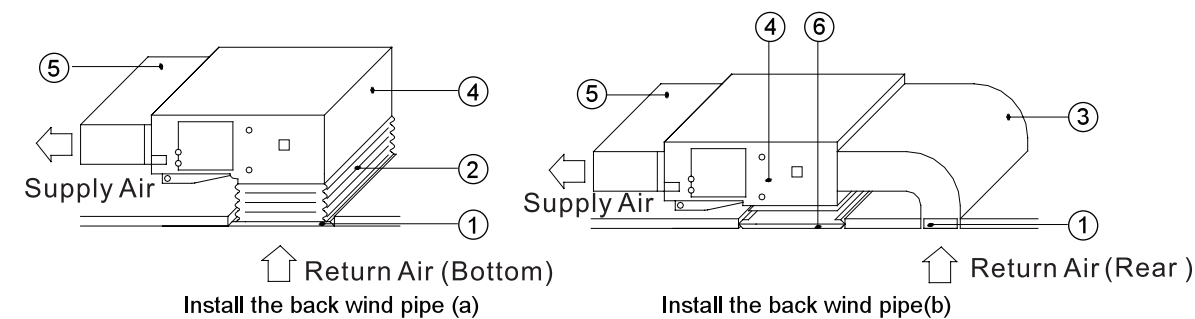

Fig.12
- (2). If the downward return air is desired, just change the place of the rectangular flange and the return air cover plate.
- (3). Connect one end of the return air duct to the return air outlet of the unit by rivets and the other to the return air louver. For the sake of the convenience to freely adjust the height, a cutting of canvas duct will be helpful, which can be reinforced and folded by 8 # iron wire.
- (4). More noise is likely to be produced in the return air bottom mode than the return air, so it is suggested to install a muffler and a plenum box to minimize the noise.
- (5). The installation method can be chosen with considering the conditions of the building and maintenance etc., as shown in Fig.12.